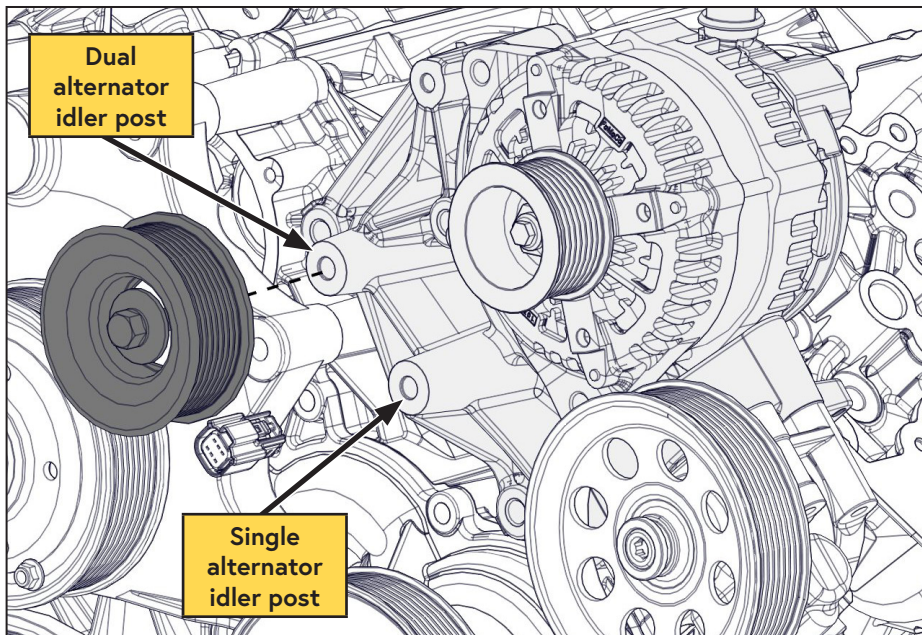

Figure 5 — 2011 idler location
- Install the ribbed idler on the dual alternator post (Figure 5).